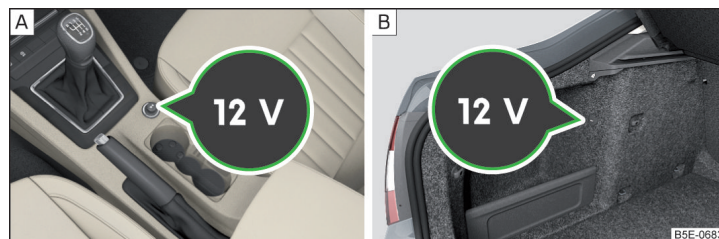

Fig. 97 Cover for the 12-volt socket: In the front centre console/in the luggage compartment
- To use, remove the cover from the socket » Fig. 97 - **A** or open the cover of the socket » Fig. 97 - **B**.